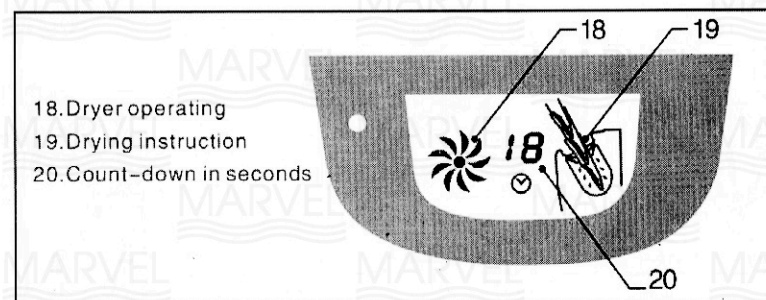

fig.4
2. LCD screen displays (see fig.4)